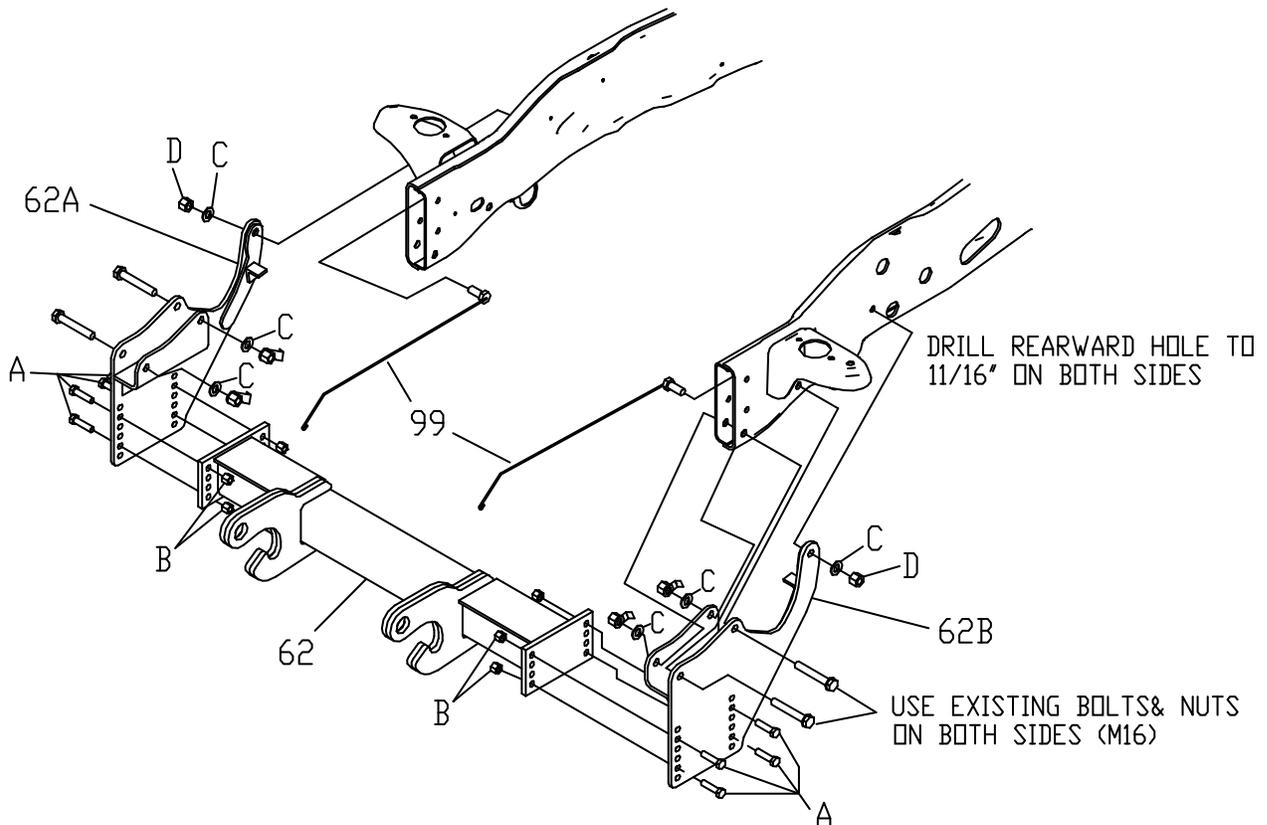
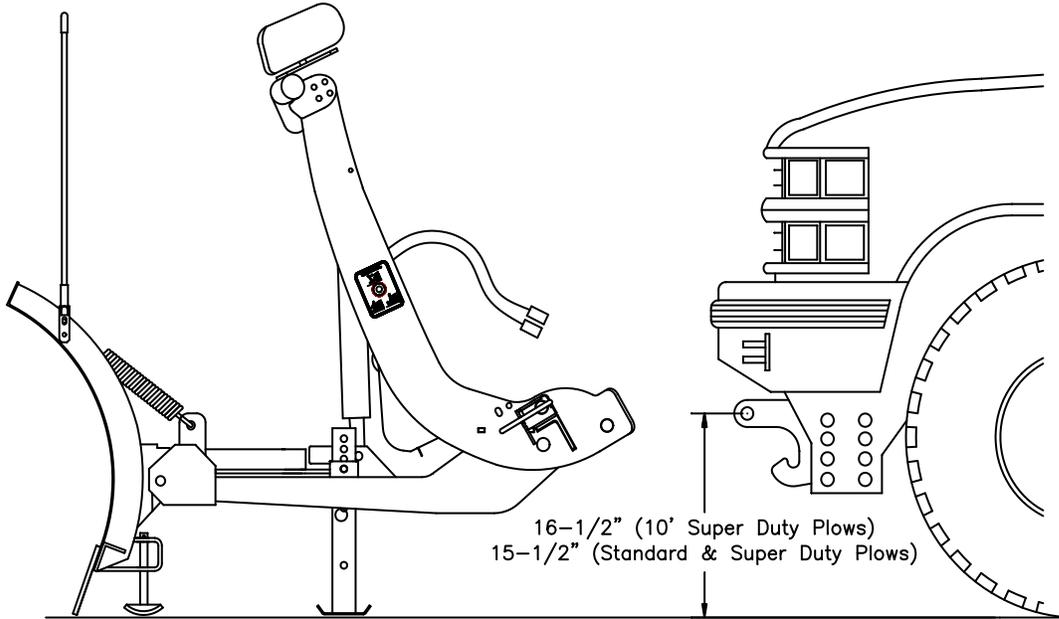

Figure 1
Figure 2
2. Next locate the most rearward hole where the 5/8" bolt bar (99) will be used. Drill the existing 9/16" hole larger using an 11/16" drill bit to fit the 5/8" bolt properly. See Figure 1 (99).
3. With the tow hooks and brackets removed, slide the DR (driver) support plate under the frame rail and use the existing M16x100 bolt and the existing lock nut to secure in place loosely [opt. use 5/8" LW (C) if existing M16 locknut is not used]. Next take one of the 5/8" bolt bar (99) for the DR side, face the bolt outward and put a 30 degree bend downward on the end opposite of bolt at about 6 inches from that end. Then take the end of the wire and put a 180 degree bend on it using a pair of pliers. This will help you to be able to position the 5/8" bolt when installing. Refer to Figure 1.
4. Using the 5/8" bolt bar that you just modified, reach the bolt in from the front of the frame (tow hook location) all the way back to the rearward hole in the Dodge frame and the hole in the DR support plate. Install the 5/8" lock washer (C) and nut (D) on the outside of the frame.
6. Install Push Beam (62) between Push Beam Support Plates (62A & 62B) using eight 1/2"-13 X 1-1/2" Hex Head Bolts (B) and eight 1/2"-13 Top Lock Nuts (H). Hardware should only be finger tight. Push Beam (62) should be mounted at a height of 15-1/2" (RT3) and 16-1/2" (10' plow) from the ground to the center of the hook hole.
- 7a. On RT3 applications, the hooks on the push beam will push up into the plastic bumper valance slightly. No cutting should be necessary. Tighten all hardware starting with the support plates. Refer to figure 2 for torque specifications.